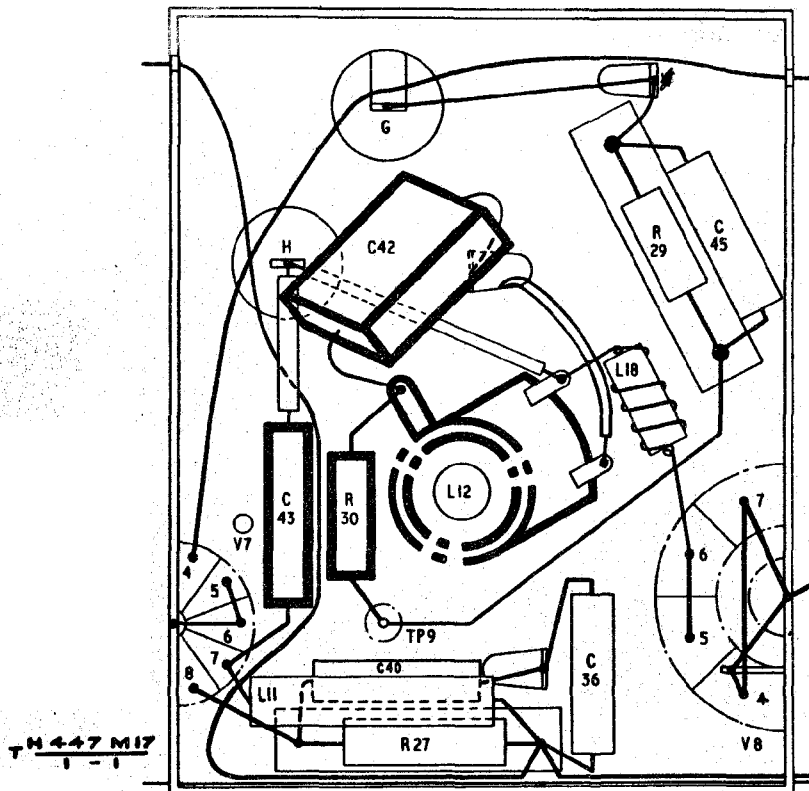

Fig 1 - Component layout
5. Page 3, Fig 1, top right-hand corner, adjacent earth tag
- (2) From lower tag of L12 to chassis hole below C42 sketch in a sleeved lead similar to that shown in Fig 1 - Component layout.
d. Unsolder the connections detailed at (1) to (5) using a heat shunt (see Tels A 522, para 5 and 6 and Fig 1) between the bodies of capacitors and resistors and the joints being unsoldered, in order to prevent heat damage to components (a heat shunt is also to be used when resoldering them and the new capacitors supplied in position, as subsequently detailed). Refer to Fig 1 for identification of components:-
(1) The lead of capacitor C42 from a tag of inductor L12.
(2) The lead connecting inductor L18 and L12 from the L12 tag only.